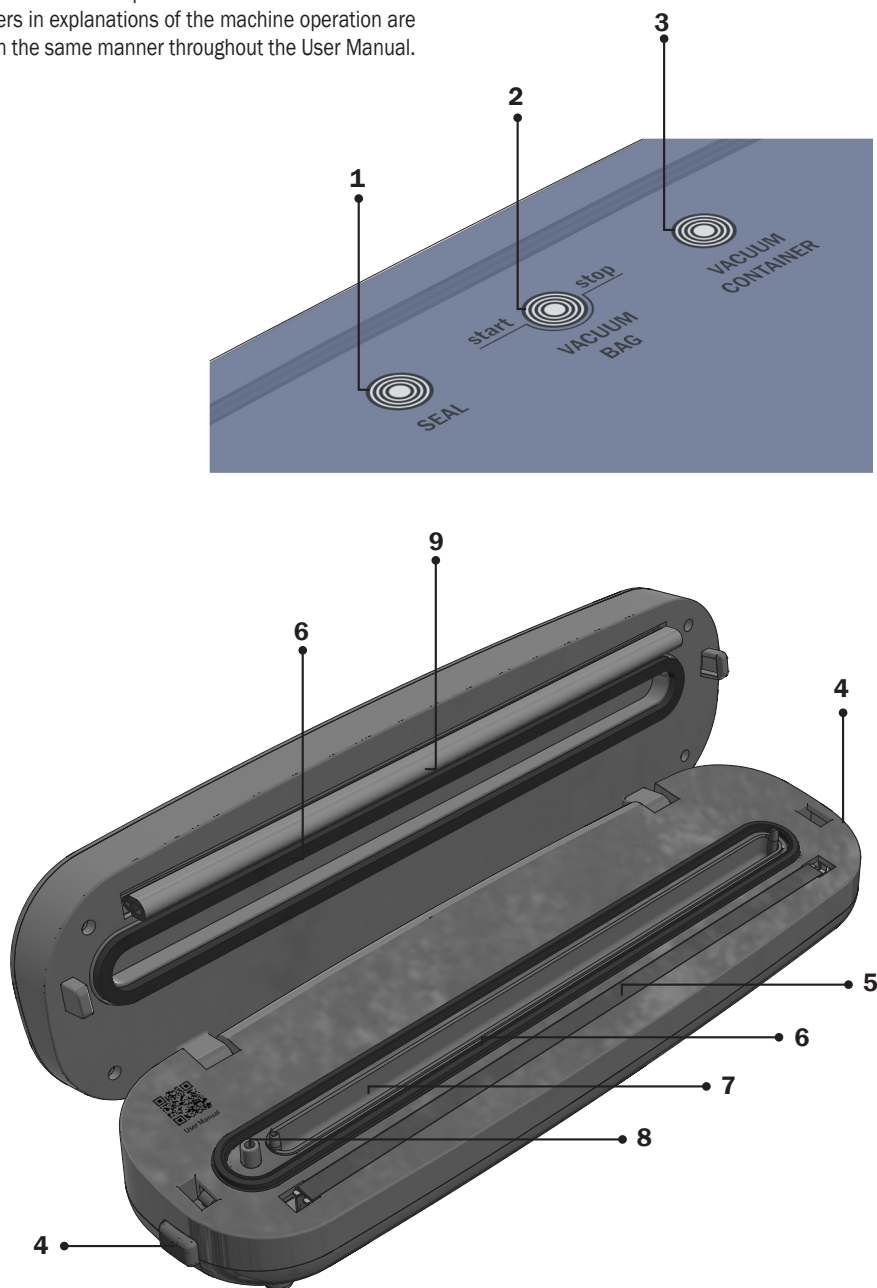

Figure 1: Status Urbano – components are marked with numbers.
- d.) Never touch the Sealing Strip when using the machine (Item 5 in Figure 1) – it may be hot.
Figure 1 shows components of the vacuum sealer. Numbers in explanations of the machine operation are used in the same manner throughout the User Manual.
- e.) To lift the lid, press the buttons on each side of machine (Item 4 in Figure 1).
- e.) The bag is sealed when the light Seal stops blinking red and briefly lights up green. Unlock the machine by pressing the side buttons (Item 4 in Figure 1).
- To remove the bag from the machine, unlock the lid by pressing the side buttons (Item 4 in Figure 1) and lift the lid.
- When the light Seal stops blinking and briefly lights up green, the process is finished. Unlock the lid by pressing the side buttons (Item 4 in Figure 1).
- Connect the aperture of the tube to the attachment located on the extreme left edge of the vacuum channel (Item 8 in Figure 1).